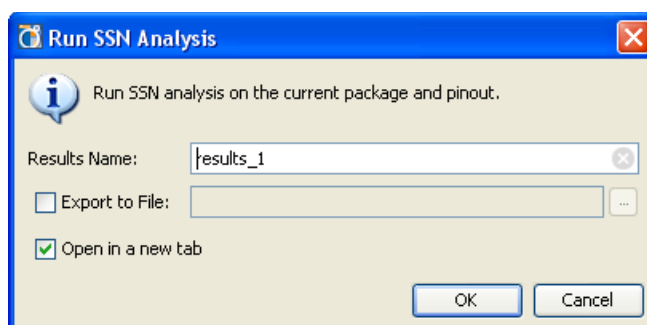

Figure 8-31: Run SSN Analysis Dialog Box
1. In the Flow Navigator, or from the Tools menu, select **Run Noise Analysis**. The Run SSN Analysis dialog box opens, as shown in Figure 8-31.